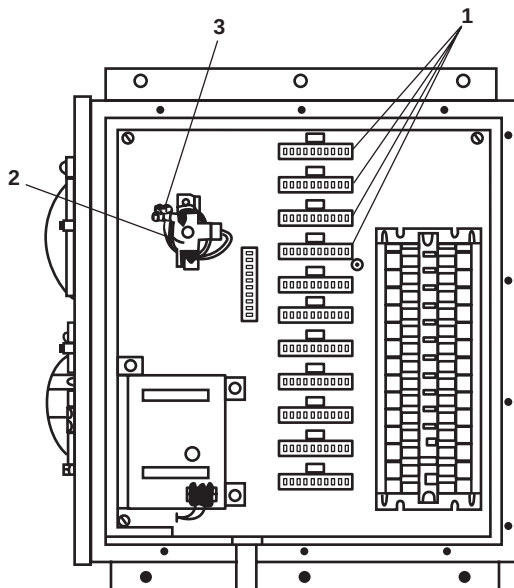

Figure 5. Float Simulator
4. Label and remove the wiring from terminals 1, 2, and 3 (figure 5, item 1) of the selected TLI control module in the control panel.
5. Label and remove the float simulator cable from the FLOAT CONTROL INDICATOR simulator bracket (figure 5, item 2).
6. Connect the float simulator cable to the terminals (figure 5, item 1) associated with the selected control module as follows:
9. Adjust the FLOAT SIMULATOR control (figure 5, item 3) to bring the deflection on the selected TLI control panel indicator (figures 1 and 2, item 3) to 25% of its rated capacity.
11. Adjust the FLOAT SIMULATOR control (figure 5, item 3) to bring the deflection on the selected TLI control panel indicator (figures 1 and 2, item 3) to 50% of its rated capacity.
13. Adjust the FLOAT SIMULATOR control (figure 5, item 3) to bring the deflection on the selected TLI control panel indicator (figures 1 and 2, item 3) to 95% of its rated capacity. Verify that selected remote indicator panel indicator (figure 4, item 1) follows the control panel indicator.
15. Adjust the FLOAT SIMULATOR control (figure 5, item 3) to bring the deflection on the selected TLI control panel indicator (figures 1 and 2, item 3) to 50% of its rated capacity.
18. Remove the float simulator cable from the control module terminals (figure 5, item 1).
19. Connect the wiring to terminals 1, 2, and 3 (figure 5, item 1) using the labels from step 4 of Removal as a guide. Remove the labels.
20. Connect the float simulator cable to the FLOAT CONTROL INDICATOR simulator bracket (figure 5, item 2) using the labels from step 5 of Removal as a guide. Remove the labels.